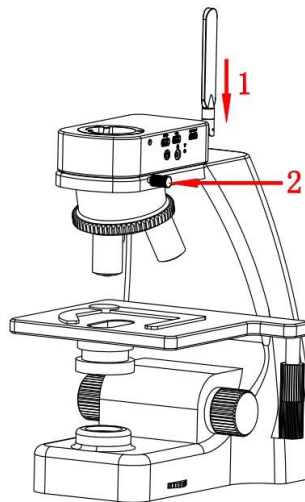

Figure 2
- 1) Place the smart embedded camera on the top of the microscope objective, as shown in figure 2;